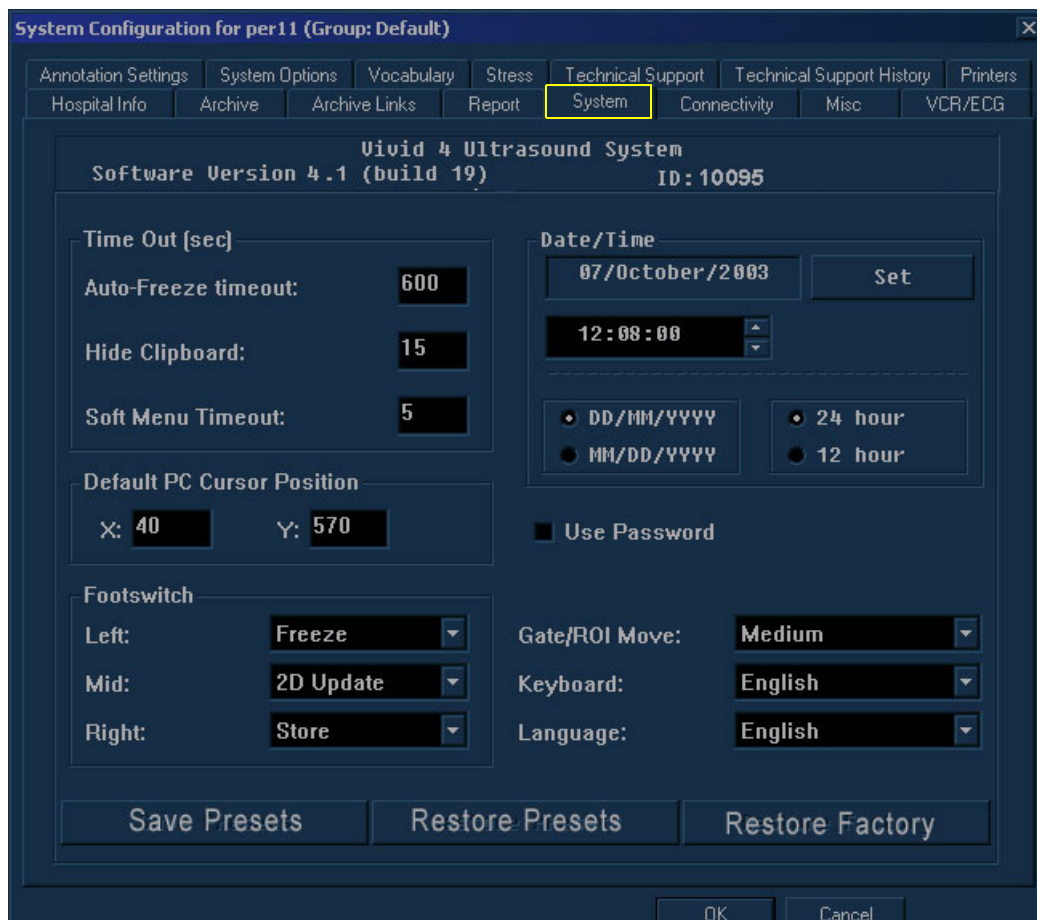

Figure 3-23 System Tab
- In the **Default PC Cursor Position** area, specify the default location of the PC cursor on the screen by entering the X and Y coordinates into the **X** and **Y** fields. The Figure 3-23, above indicates the recommended default factory setup for X and Y.